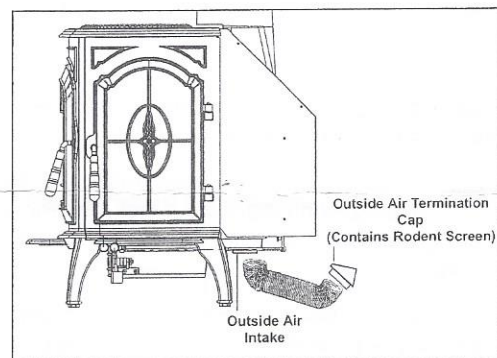

Figure 5 - Yosemite, Cumberland Gap And Isle Royale
5. Mount the flex flange (with pipe fitting extending out), over the intake air opening at the rear of the stove using the four mounting screws supplied with the kit. **Figure 5.**